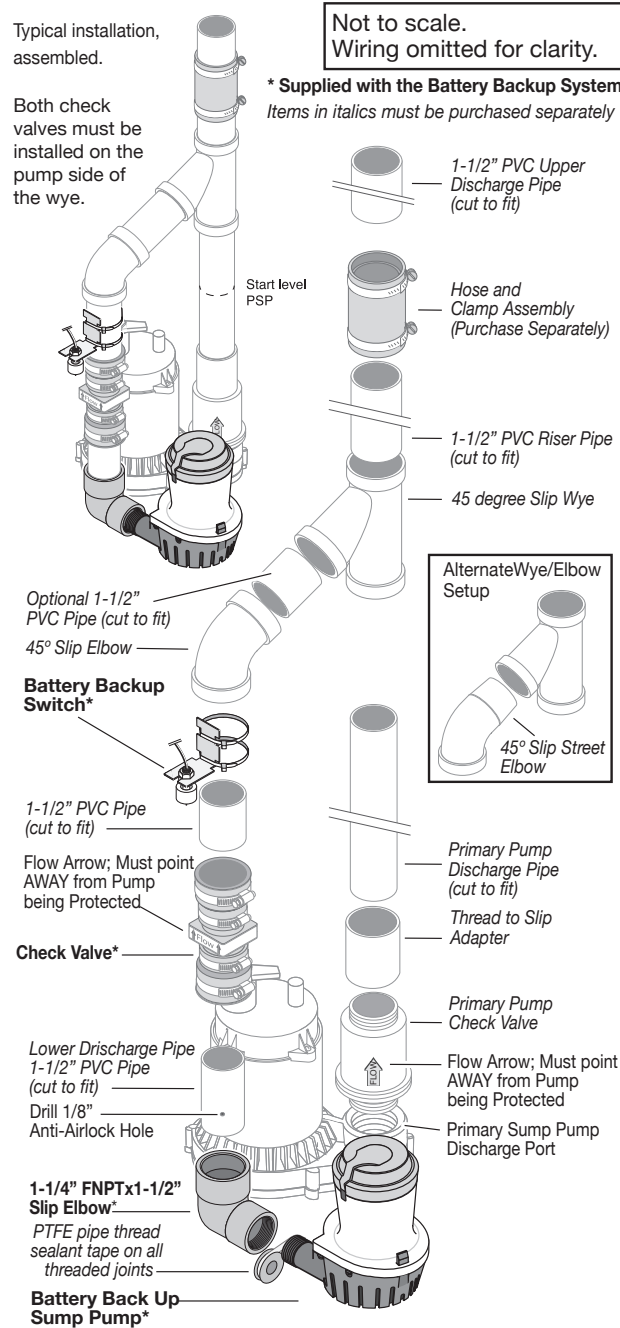

Figure 3: Common Discharge Pipe - Typical Installation
- ◆ If possible, install the BBU so that the discharge goes directly outdoors (separate discharge pipe from the primary sump pump discharge pipe). If this is not a practical option, see the "Common Discharge" (Figure 3) option.
2. If there is no check valve in the primary sump pump's discharge, you will need to install one. You must also install one in the BBU's discharge pipe (Figure 3). Make sure that the check valve flow arrow points AWAY from the pump it is protecting.